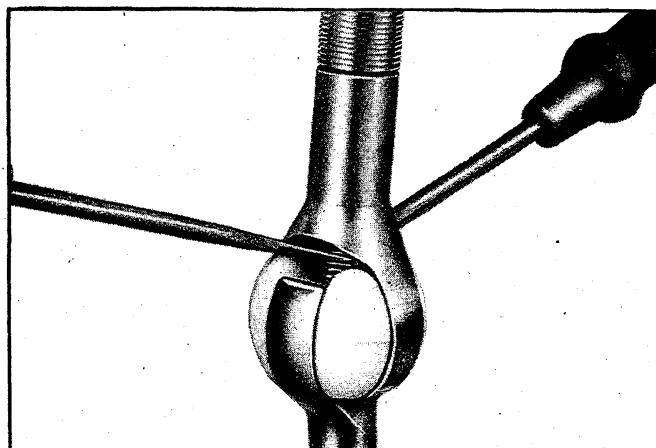

Fig. 41—Removing 'Preload Spring from Centering Spheres
- c. Using a narrow blade screwdriver, work preload spring out of upper shaft and remove spring (fig. 41).